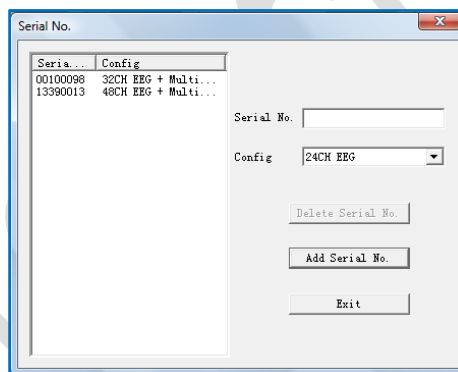

Fig 2-5 Serial Number addition
- 4 At the Engineering configuration interface, click on "Serial No." button to open a window of EEG serial numbers, shown in Fig 2-5.